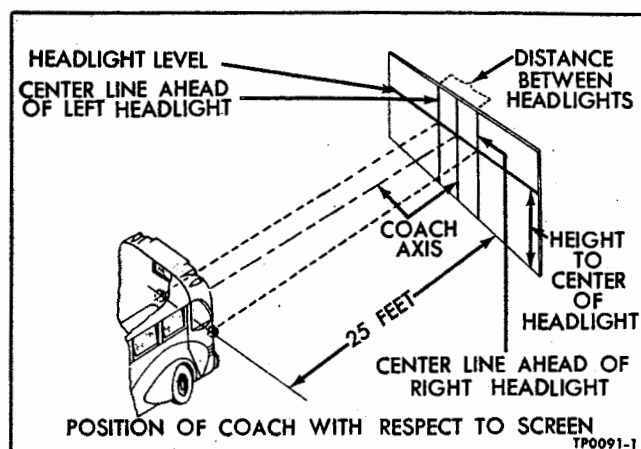

Figure 41—Headlight Aiming Chart
1. Position vehicle on level floor with headlights 25 feet from a vertical wall or door as shown in figure 41. Vehicle center line must be perpendicular to vertical surface.
2. Draw a horizontal line on vertical surface at height of light center as shown in figure 41. Locate a point on this horizontal line at which projected center line of chassis intersects. Measure distance between light centers and divide the distance equally on either side of center mark. Then draw a vertical line directly ahead of each light center as shown.